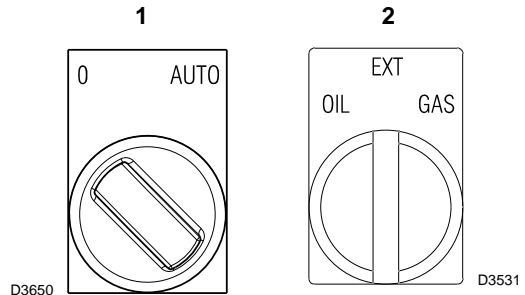

Fig. 30
Close all the triggering and safety devices and turn selector 1)(Fig. 30) to “**AUTO**”.
- 2 using selector 2)(Fig. 30);
By setting selector 2)(Fig. 30) to “**EXT**”, you activate the remote fuel selection facility. In this position, if no remote selector is fitted, the display shows the priority fuel.